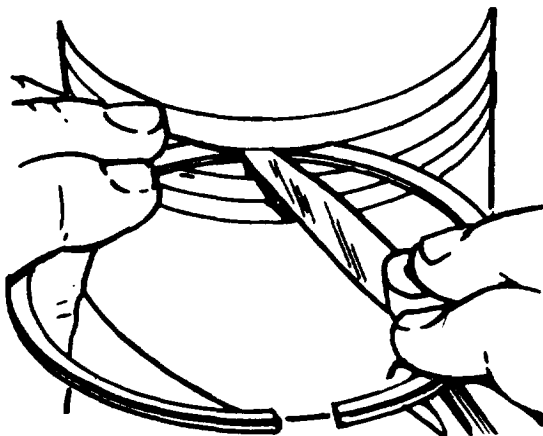

Figure 5-51. Inspecting Ring Lands
- (5) Mark each piston to make sure the rod will be assembled on the piston from which it was removed. Remove the piston pin retainer from each side and push the pin out.
- (6) Inspect the pistons for fractures at the ring lands, skirts and pin bosses. Check for wear at the ring land using new rings and a feeler gage as shown in figure 5-51. See Table 5-3 for proper side clearance measurement.